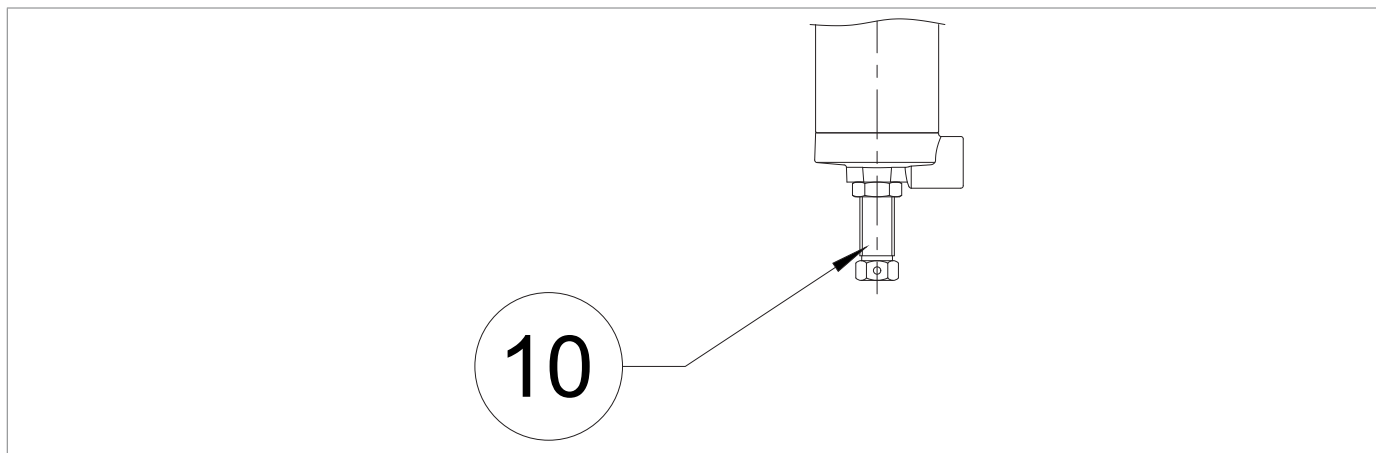

Fig. 8.30. 200/A/FO series pilots
2	Completely unscrew the fixing nut and adjusting screw (Fig. 8.30) of the pilots (3, 11) to relieve the springs.
4	Completely compress the pilot spring (3) by turning the adjusting screw (Fig. 8.30) clockwise.
6	Turn the adjustment screw (Fig. 8.30) on the monitor pilot (11) clockwise to increase the downstream pressure value to the selected monitor operating value. ! NOTICE! Check the pressure referring to the pressure gauge (5) located upstream.
7	Turn the adjusting screw (Fig. 8.30) on the pilot (3) anti-clockwise to relieve the calibration spring until the pre-set downstream pressure value has been reached.
13	Tighten the adjusting screws and pilot nuts (Fig. 8.30) (3, 11).
2	Completely unscrew the fixing nut (Fig. 8.30) and the pilot adjusting screw (3, 10).
5	Completely compress the pilot spring (3) by turning the adjusting screw (Fig. 8.30) clockwise.
7	Slowly increase the downstream pressure by turning the adjusting screw (, Fig. 8.30) of the monitor pilot (10) clockwise until the setpoint pressure of the M/A throttle valve (11) is reached. NOTICE! Check the pressure referring to the pressure gauge (5) located upstream.
9	<p>Turn the adjusting screw (Fig. 8.30) on the monitor pilot (10) anti-clockwise to decrease the downstream pressure value to the selected monitor operating value.</p> <div style="border: 1px solid black; padding: 5px;"> <p>! NOTICE!</p> <ul style="list-style-type: none"> • Ensuring that the M/A accelerating valve (11) has interrupted the gas discharge; • Check the pressure referring to the pressure gauge (5) located upstream. </div>
10	<p>Turn the adjusting screw (Fig. 8.30) on the pilot (3) anti-clockwise to relieve the calibration spring until the pre-set downstream pressure value has been reached.</p> <div style="border: 1px solid black; padding: 5px;"> <p>! NOTICE!</p> <p>Check the pressure referring to the pressure gauge (5) located upstream.</p> </div>
16	<p>Lock the adjustment screws (Fig. 8.30) and the fixing nuts of the pilots (3, 10) and of the M/A throttle valve (11).</p>
2	Completely unscrew the fixing nut (Fig. 8.30) of the pilot screw (3).
3	Completely relieve the pilot spring (3) by turning the adjusting screw (fig. 8.30) anti-clockwise.